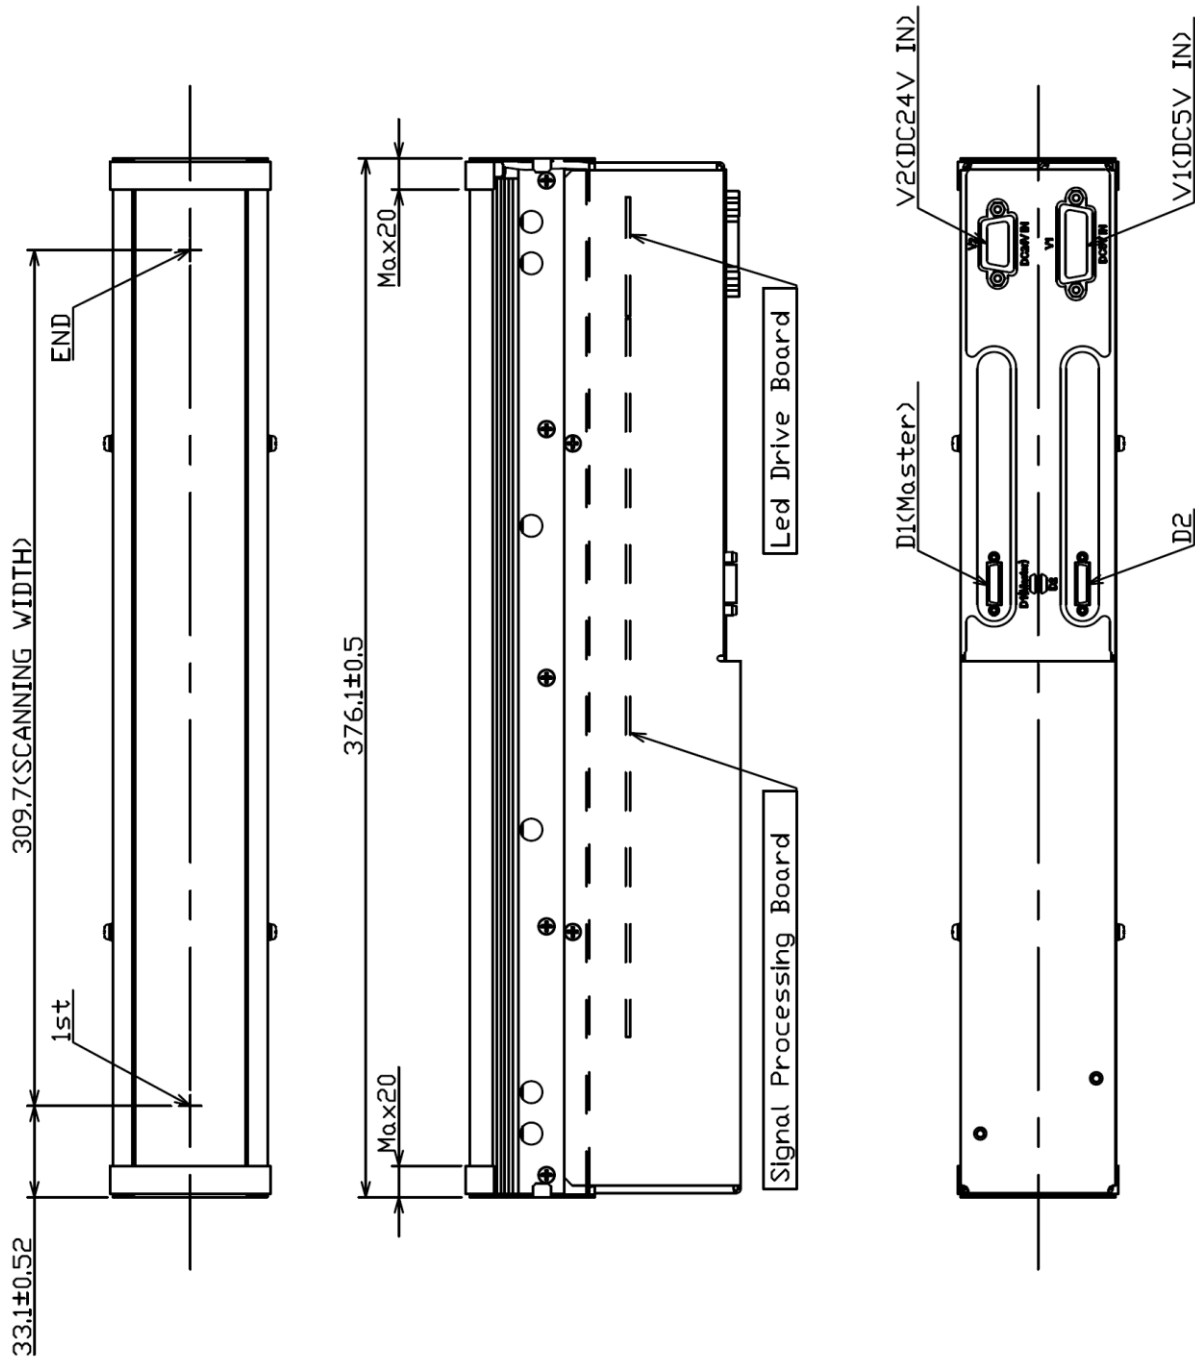

Fig.3 KD6R309MX Outline drawing
- (6) Keep this product's boards away from sources of electrical noise, such as boards, cables, and so on. (For information about boards position, refer to Fig. 3~ 6).
(7) Storage environment and usage environment